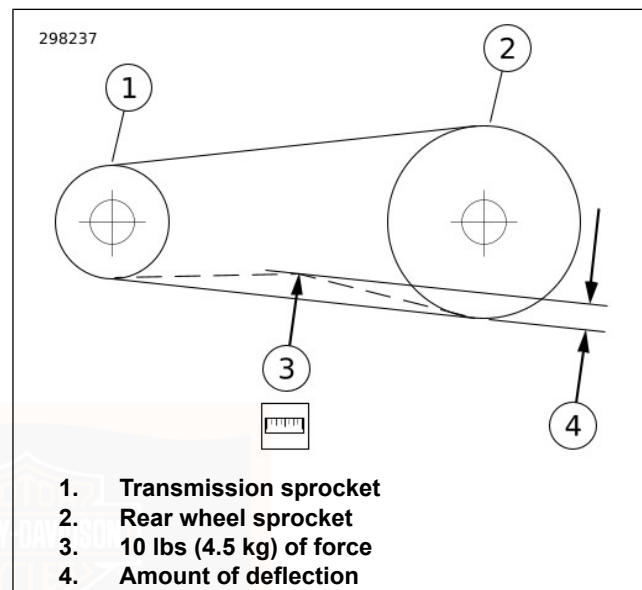

Figure 35. Checking Belt Deflection
3. See Figure 35. Fit cradle against bottom of belt midway between transmission sprocket and rear sprocket.